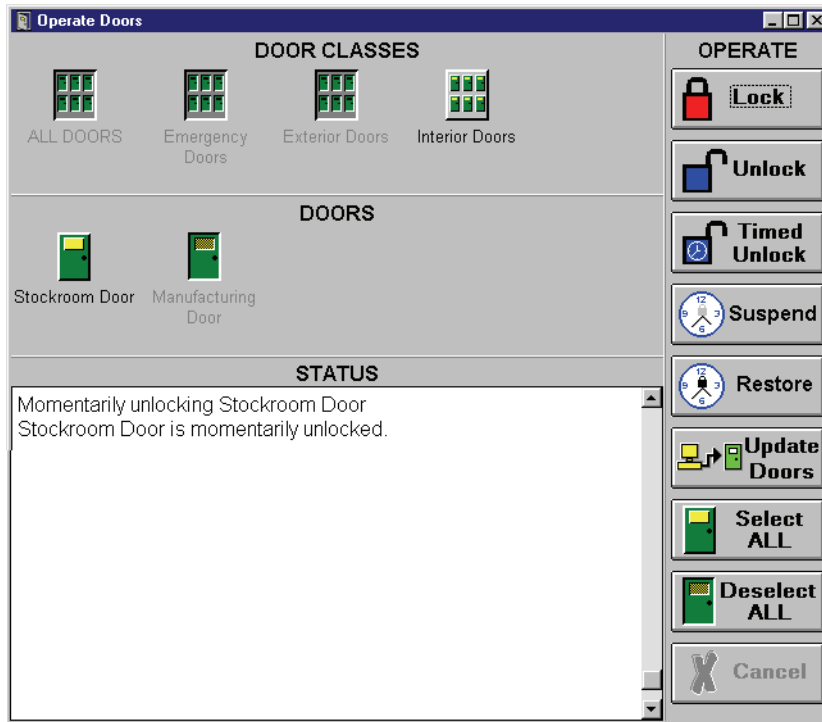

Figure 6-10: Timed Unlocking a Single Door
3. Click on the  button. The resulting window will look similar to Figure 6-10.